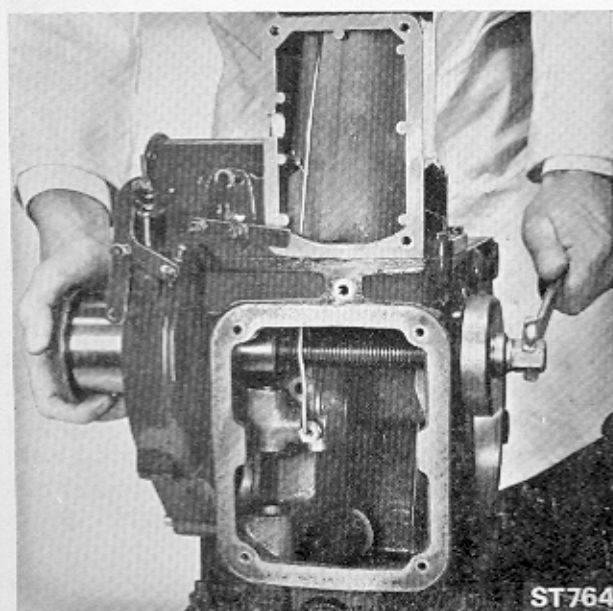

Fig. 134. Fitting Gear End Bush—ST1
**ST1 Engines—Gear End (Fig. 134)**
- (a) Place new flanged bush on to plug (1).
- (c) Fit bolt through spacer (6) with recessed side of spacer nearest head of bolt.